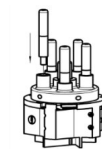

Fig.16: Inserting the contact pin
2. Insert the new contact pin (Fig.16).